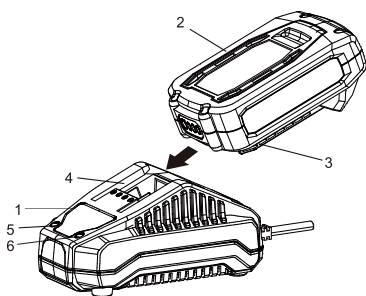

Fig. 1
1. Place the battery charger (1) in a dry location near a 120V 60 Hz electrical outlet (Fig.1).